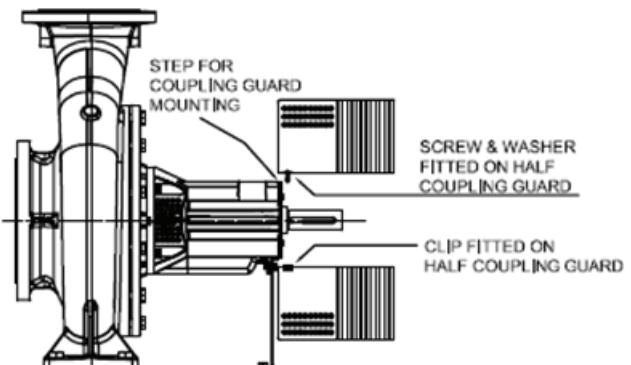

Figure 6 – Coupler Guard Installation
- Fasten coupler guard hardware, see Figure 6.